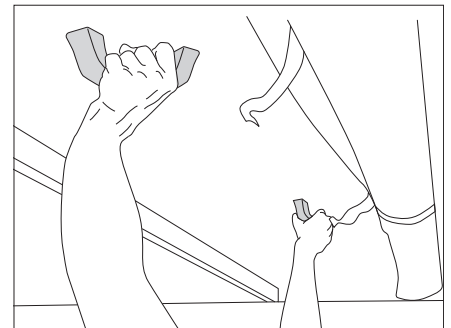

Fig. 6 Pushing up the pop-up roof
- Hold the grips with both hands and push the pop-up roof upwards (Fig. 6).